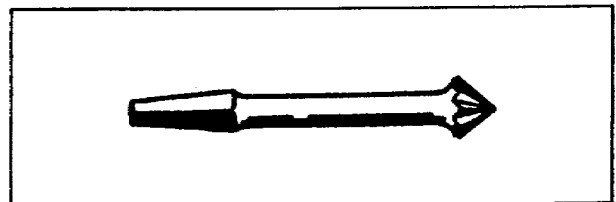

Figure 2-5. Countersink bit
(4) Countersink Bit. A countersink bit is used to increase the diameter of the top of a drilled hole to receive the head of a screw (Figure 2-5).